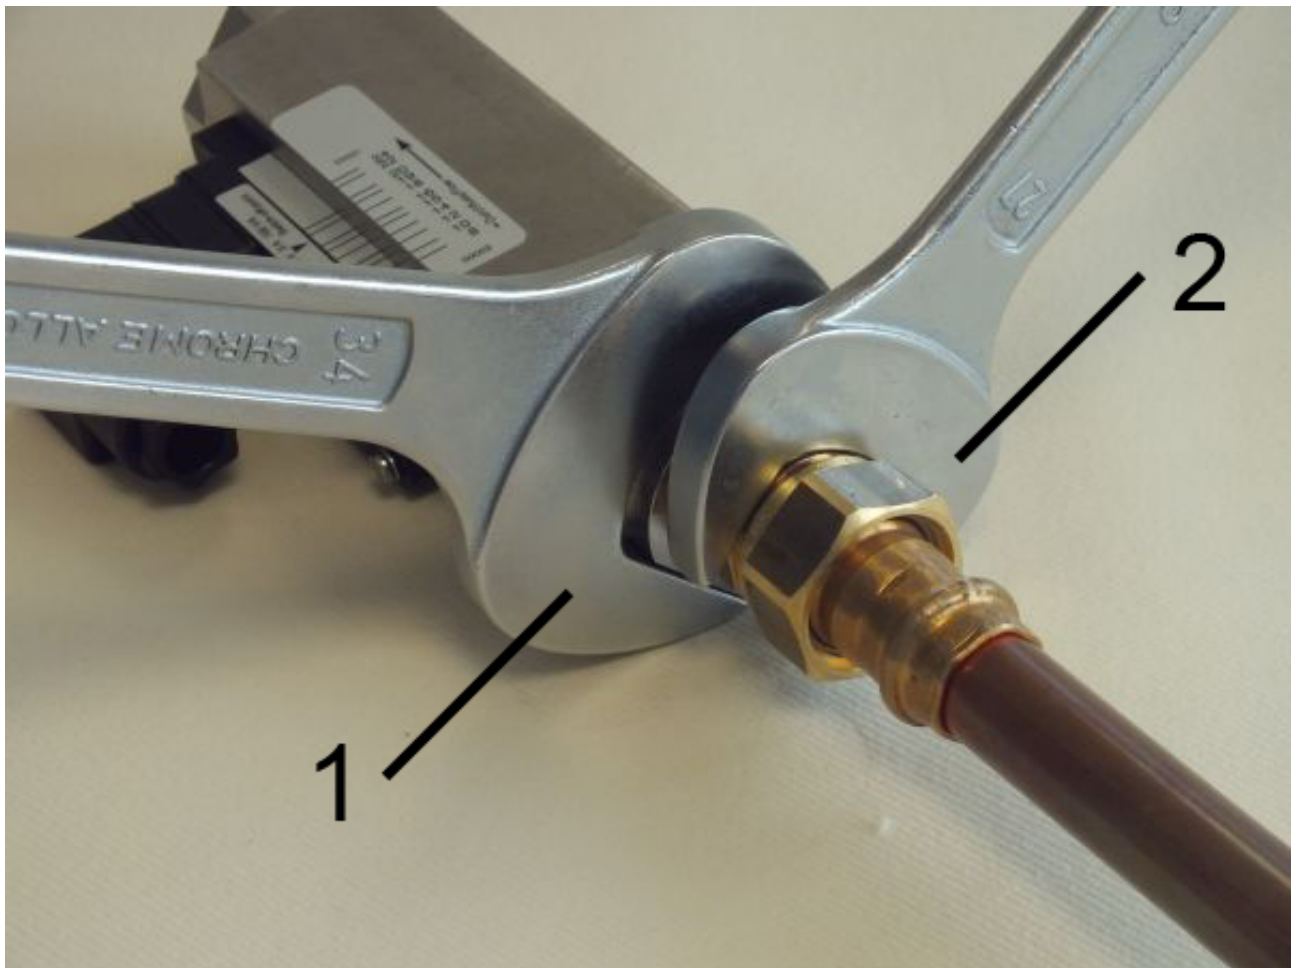

Fig. 12: Screw in the device
2. ➡ Fasten the adapter union of the pipeline with an appropriate spanner (*Fig. 12/2*). When doing so, lock the process connector in place to prevent slip, using a suitable spanner (*Fig. 12/1*).